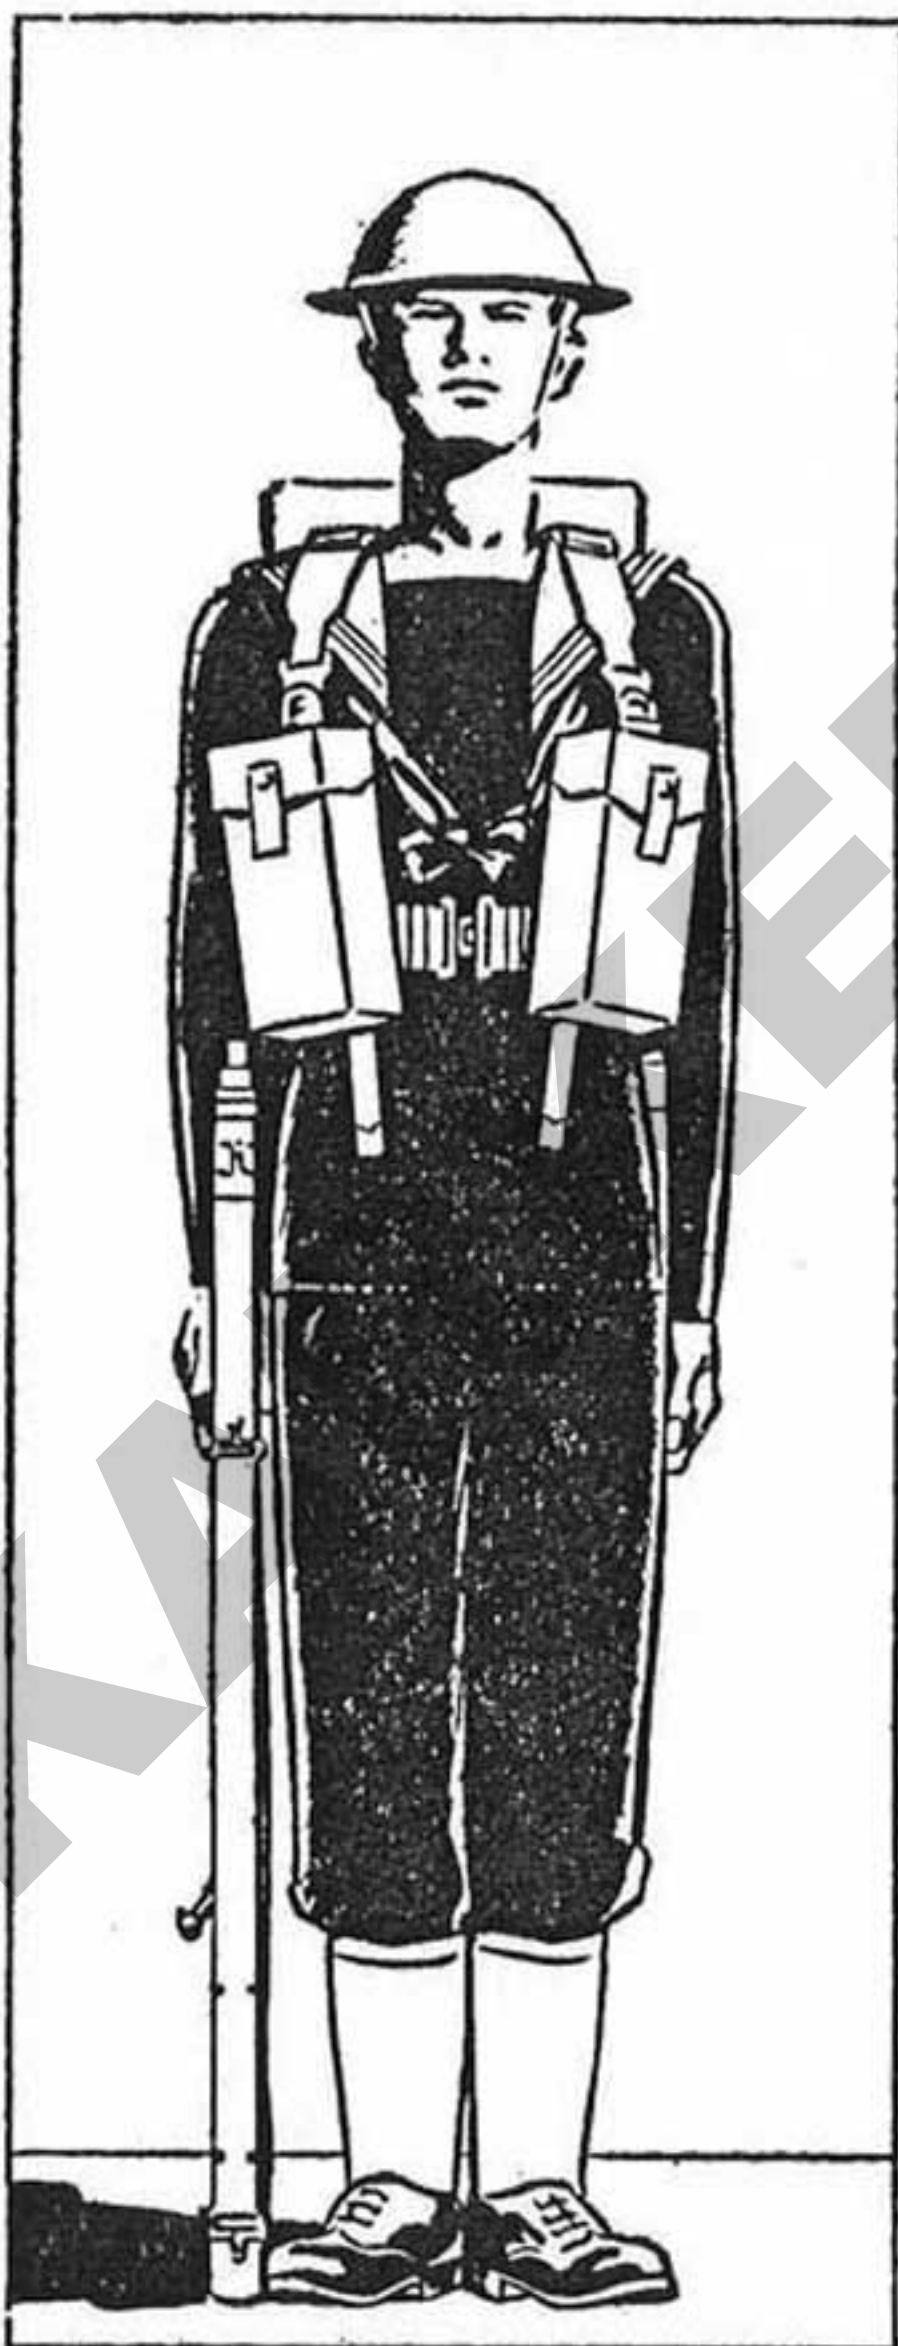

Fig. 8. Battle order—front view
12. Battle order is musketry order, with certain additions which enable the wearer to be self-supporting for a certain length of time ashore. The additions are :—haversack, water bottle, entrenching tool and mess tin (see Figs. 8 and 9). This is the equipment which the rating of the landing party will normally wear when disembarked. Once ashore, the commanding officer will decide whether it is to be continued to be worn, or whether musketry order will suffice.